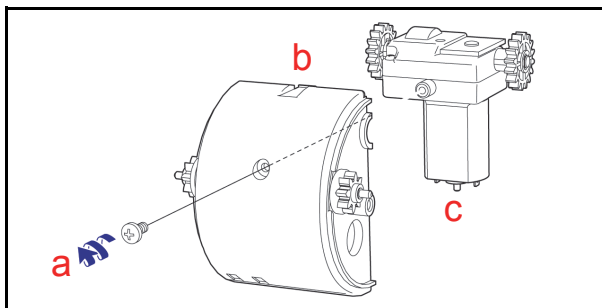

Figure 4-14 Motor Drive Assembly Removal
2. Remove the single (1) Motor Drive Assembly mounting screw (See Figure 4-14 a) from the Lower Center Guide (See Figure 4-14 b).
3. Remove the Motor Drive Assembly (See Figure 4-14 c) from the Lower Center Guide Section.